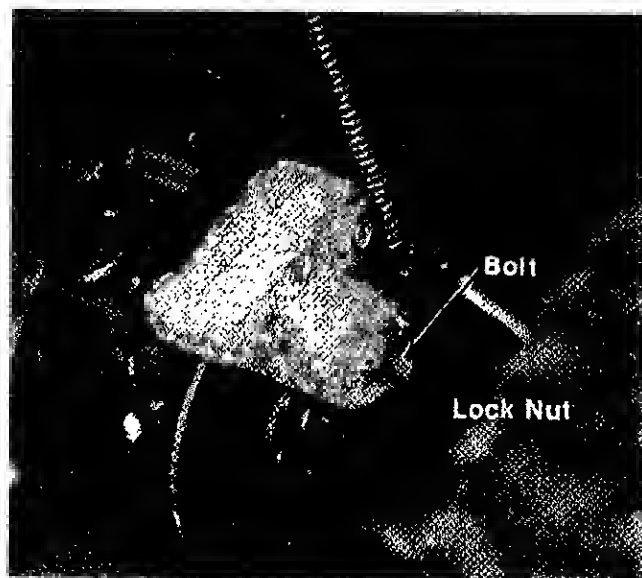

FIGURE 22.
1. Loosen the lock nut. (See figure 22.)